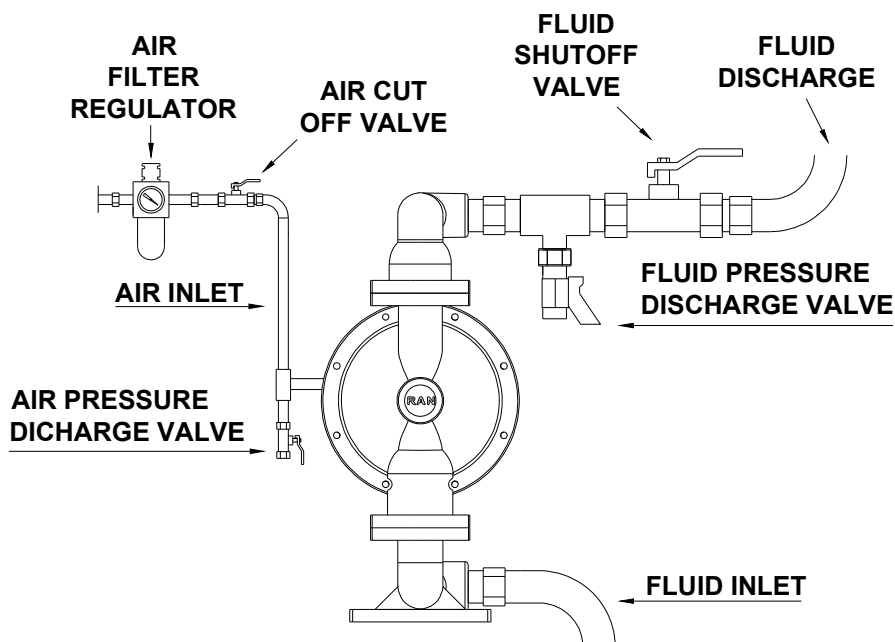

Figure 8 - Typical installation of a pump.
A typical connection scheme of diaphragm pump is shown at Figure 8. Refer to your RAN™ Pump distributor for detailed information.
A bleed-type master air valve is required in your system to relieve air trapped between this valve and the pump. Trapped air can cause the pump to cycle unexpectedly, which could result in serious injury, including splashing in the eyes or on the skin, injury from moving parts, or contamination from hazardous fluids. See Fig. 8.
**1- Compressed air line accessories:** Refer to the Figure 8 for the connection scheme. Fix these accessories to the wall or to a bracket.